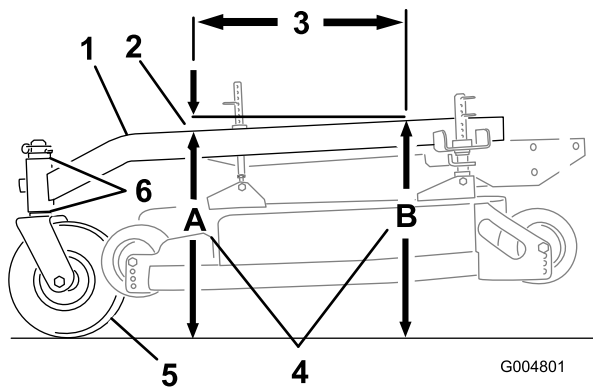

Figure 66
The carrier frame must have a pitch between 1/8 inch (3 mm) to 3/8 inch (9 mm) over the length of 24 inches (61 cm) on the carrier frame (Figure 66).
1. Measure out 24 inches (61 cm) on the carrier frame (Figure 66).
2. Measure carrier frame height at location **A** (Figure 66).
3. Measure carrier frame height at location **B** (Figure 66).
4. The height at location **A** must be an 1/8-3/8 inch (3 mm -10 mm) lower than location **B** (Figure 66).
5. If the carrier frame is not correct, move caster spacers to make it an 1/8-3/8 inch (3 -10 mm) pitch (Figure 66). Move spacers from top or bottom to make the correct pitch.